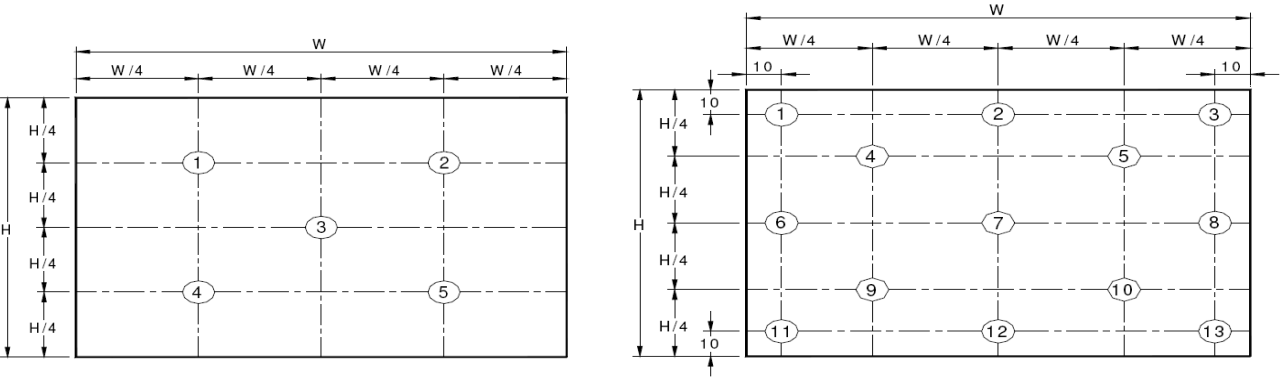

Figure 9. Uniformity Measurement Locations (5 points &13 points)
4. The White luminance uniformity on LCD surface is then expressed as : $\Delta Y = \text{Minimum Luminance of 5(or 13) points} / \text{Maximum Luminance of 5(or 13) points.}$ (see Figure 9).
The White luminance uniformity on LCD surface is then expressed as : $\Delta Y5$ = Minimum Luminance of five points / Maximum Luminance of five points (see Figure 9) , $\Delta Y13$ = Minimum Luminance of 13 points /Maximum Luminance of 13 points (see Figure 9).